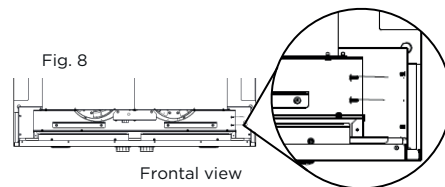

Fig. 8
18. Attach the Torino to the hood insert with 2 x 3.5 x 9.5 mm screws on each side. (Fig. 8).